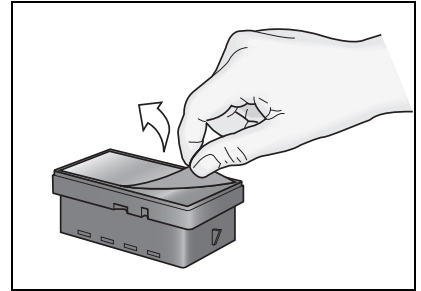

figure 8
- ❶ Peel off the protective film from the rubber surface of the stamp (see figure 8).
- ❷ With the protective cap covering the surface of the stamp, place the stamp face down.